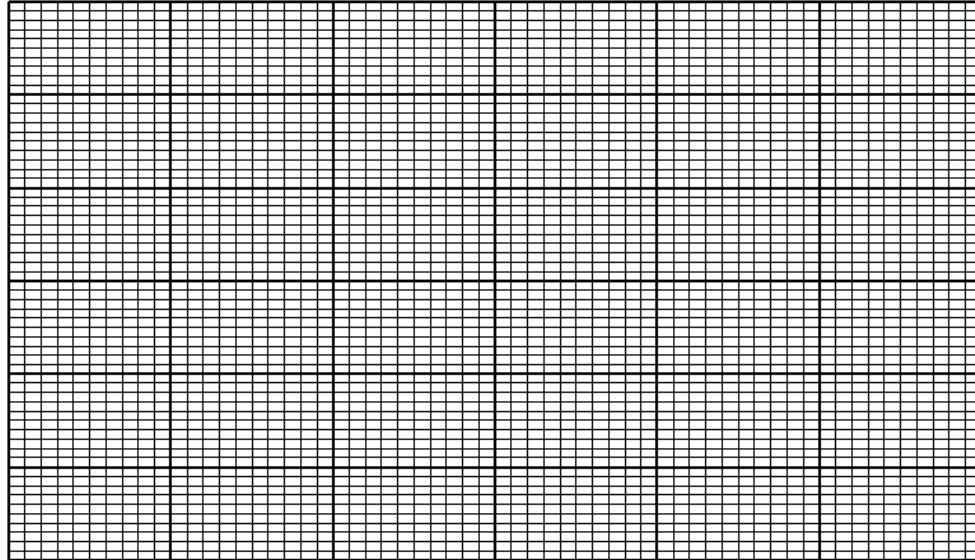

Fig. 3.3
- (b) (i) On Fig. 3.3, sketch the displacement-time curve for the system depicted in (a).
Assuming that the spring constant k is unchanged, on the same axes in Fig. 3.3, sketch the displacement-time curve for the mass with cardboard.